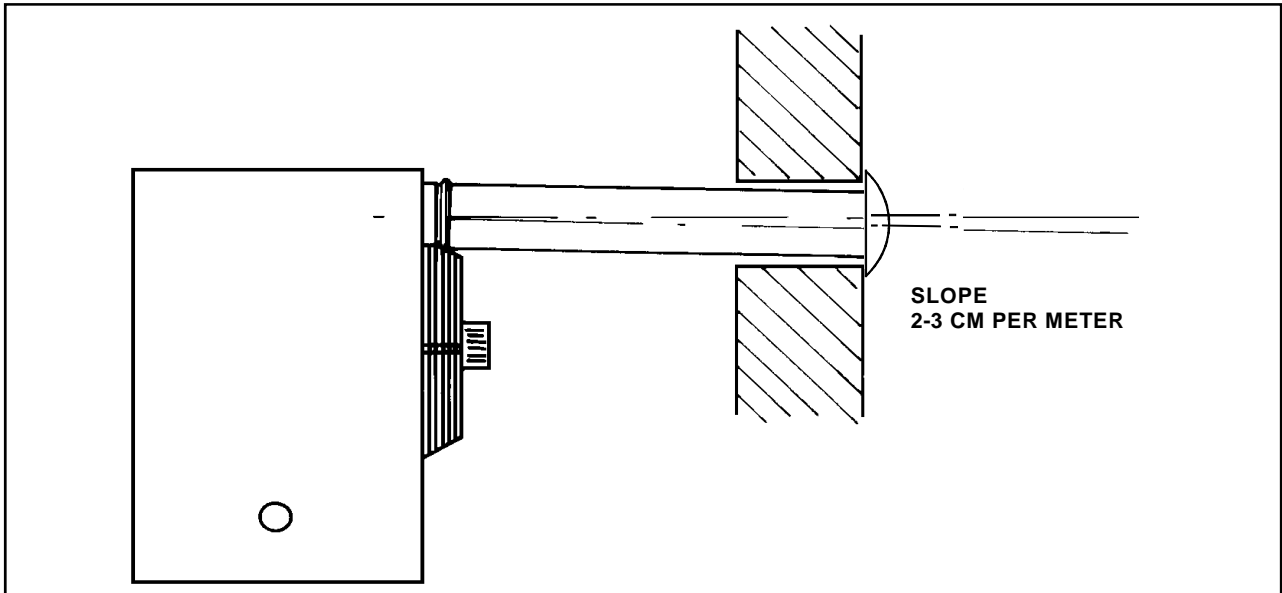
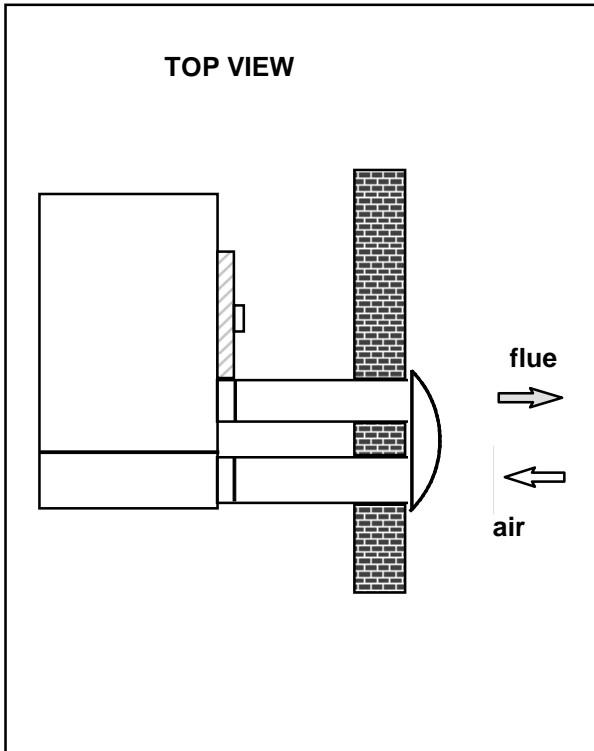
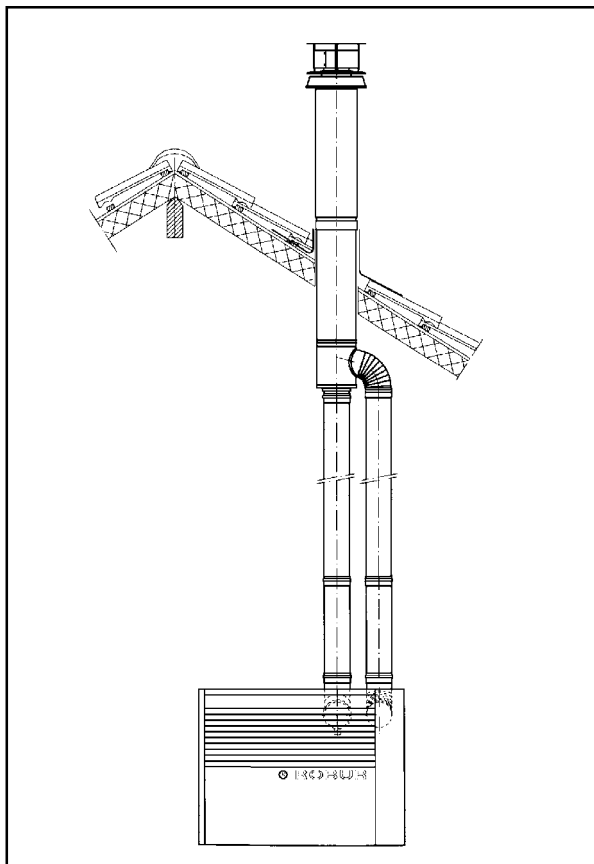

Figure 5
Figure 8
Figure 10
- **C₁₃** e **C₃₃** type installation; room sealed combustion circuit. Appliance with inlet air supply and outlet of exhaust gases with, either, concentric or separate ducts - horizontal (for **C₁₃** see figures 8/9) or vertical ones (for **C₃₃** see figure 10).
Note: When horizontal pipes with lengths above 1 metre are installed, the flue pipe must be mounted with a slope of 2 to 3 cm each 1 metre length (see fig. 5), to prevent entering the condense drops into the unit. In addition, to install correctly the flue exhaust and the air intake terminals, follow the details given in figure 8.